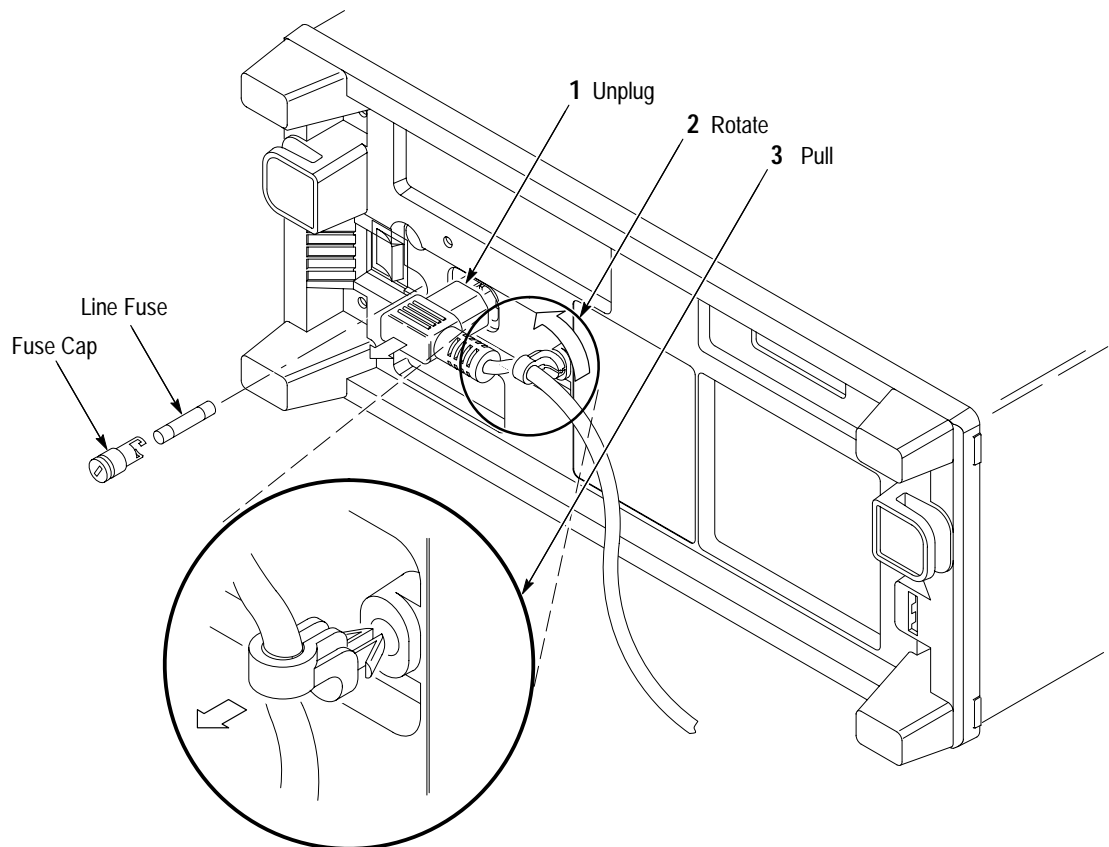

Figure 6–5: Line Fuse and Line Cord Removal
3. *Remove line fuse:* Find the fuse cap on the rear panel. (See Figure 6–5.) Now, remove the fuse cap by turning it counter-clockwise using a flat-bladed screwdriver, and remove the line fuse. Reverse procedure to reinstall.
4. *Remove line cord:* Find the line cord on the rear cover. (See Figure 6–5.) Now, remove the line-cord retaining clamp by first unplugging the line cord from its receptacle. Next, grasp both the line cord and the retaining clamp and rotate it 90 degrees counter-clockwise. Pull the line cord and clamp away to complete the removal. Reverse procedure to reinstall.